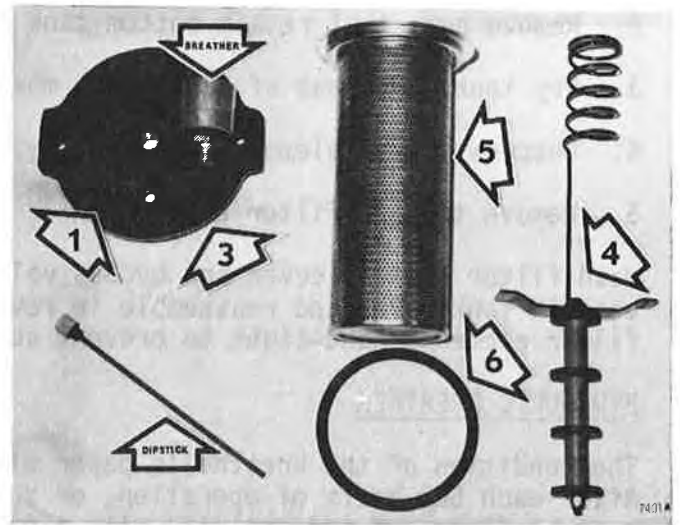

Figure 138
2. Remove nuts and lift cover (1, Figure 138) off.
3. Remove hold down spider (4).
4. With a clean hand, reach into tank and remove screen (5) and gasket (6).